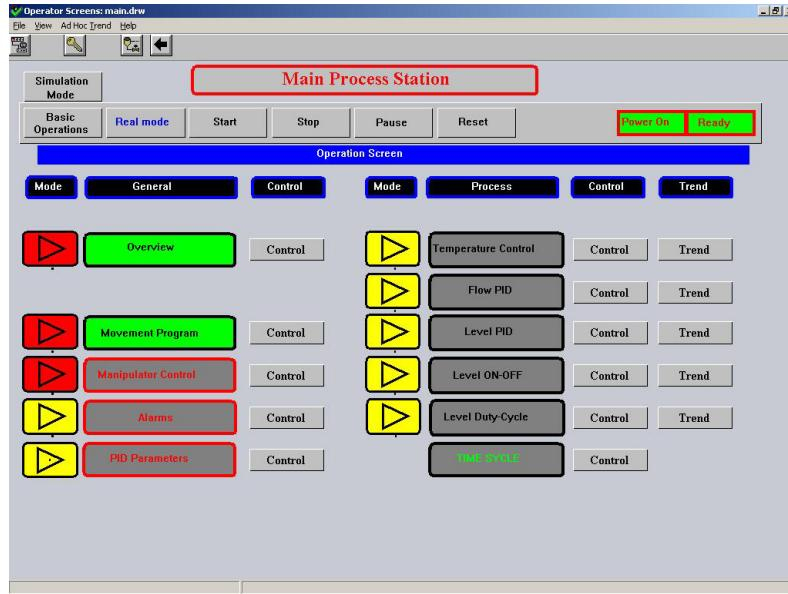

Figure 9-40: Main Process Station
8. Click **Restart**. The Main Process Station window (shown in Figure 9-40: Main Process Station) is displayed in the background. Click **Close** to close the Vuniq Application Manager window.
3. Select **Operator Screens**. The Main Process Station window is displayed, as shown in, Figure 9-40: Main Process Station.
- Click the icon to return to the Main Process Station window (shown in Figure 9-40: Main Process Station).